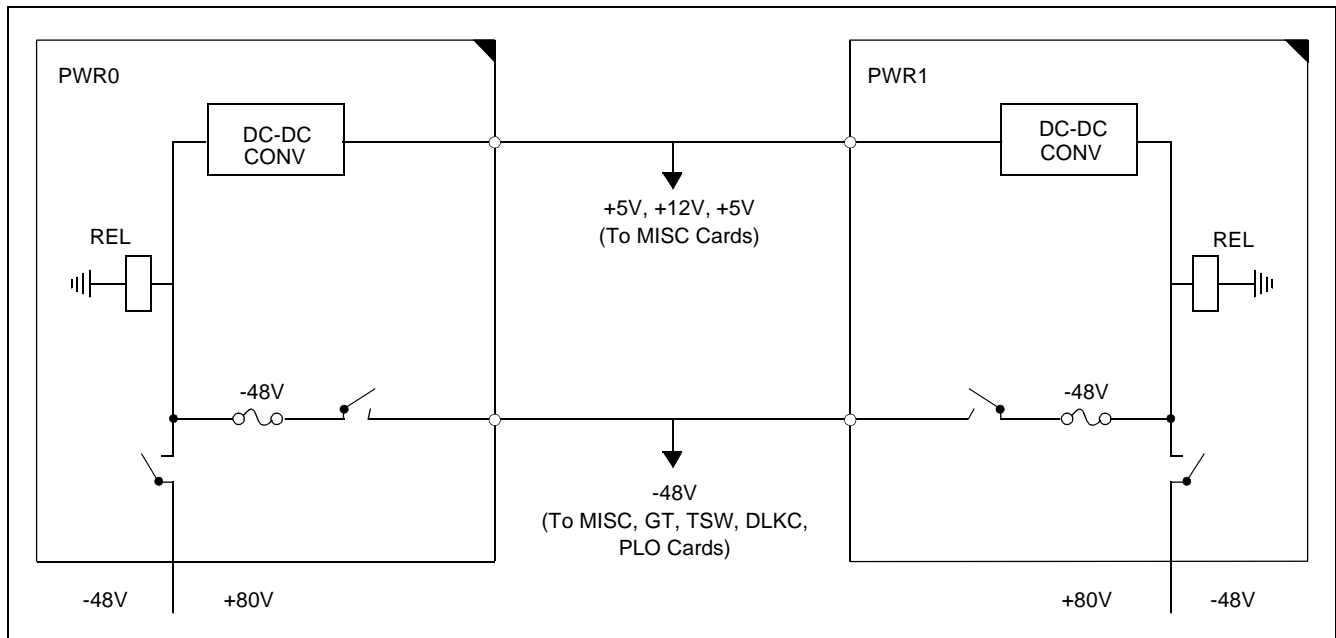

Figure 5-18 Power Supply to TSWM
(6) Figure 5-18 shows the power supply system for TSWM.